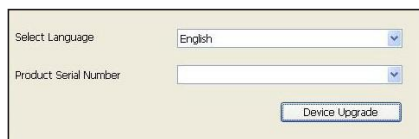

Figure 7-1
3. You will be prompted to type in the Serial Number (located at the back of the tool) (Figure 7-1)